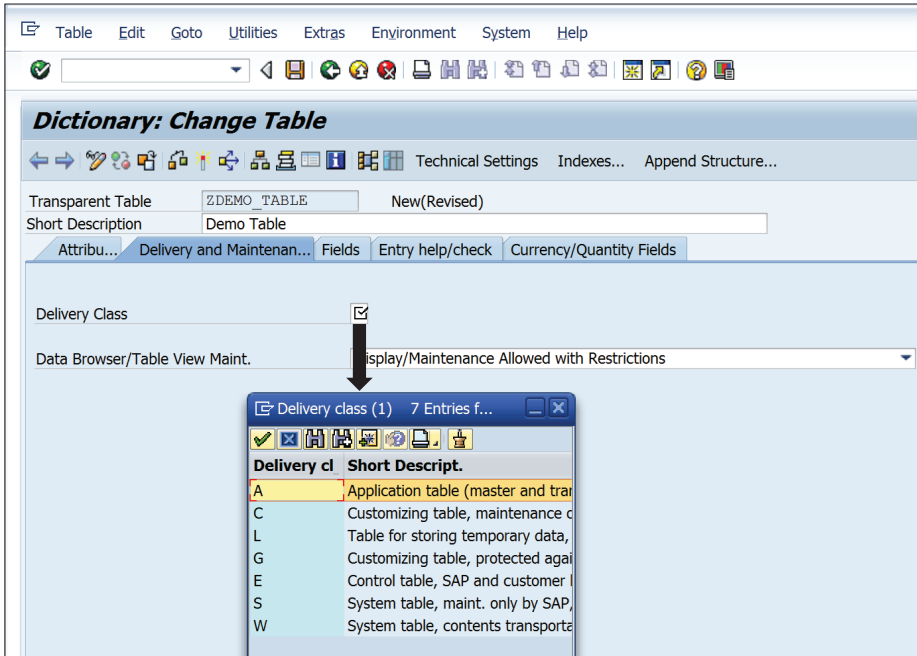

Figure 10.4 Delivery and Maintenance Tab
- ▶ `DELIVERY CLASS`: This field allows you to select the type of data the database table will contain. Use `F4` help to select from one of the available options, as shown in Figure 10.4. The option selected for `DELIVERY CLASS` will control the transport of table data during installation, upgrades, and client copies. This setting also influences transport between customer systems. For this example, select `A` so that you can store application data in this table.